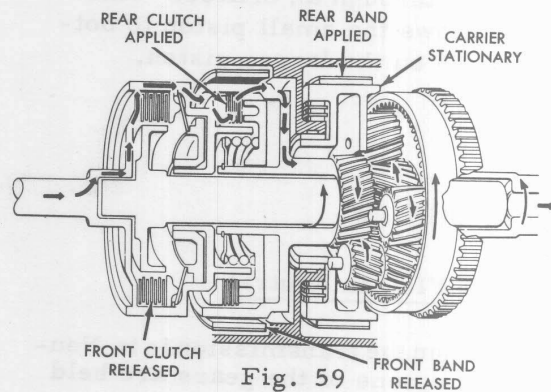

Fig. 59
- ⊗ Reverse is obtained by driving the secondary sun gear while holding the pinion carrier (Fig. 59). The secondary pinions force the internal gear in the reverse direction. The